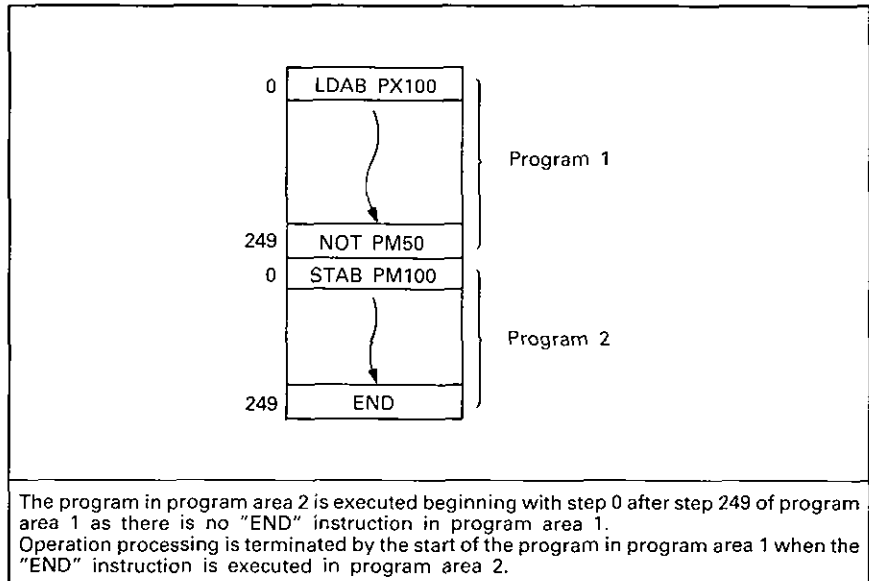

Fig. 5.4 Sequentially Used Program Areas
- (b) The next program area may be used sequentially if the **END** instruction is not used in one program area as shown in Fig. 5.4.
Setting the sampling time to other than 0 starts the corresponding program per sampling time. For example, in Fig. 5.4, the sampling time of program area 2 should be set to 0 to execute programs 1 and 2 sequentially.